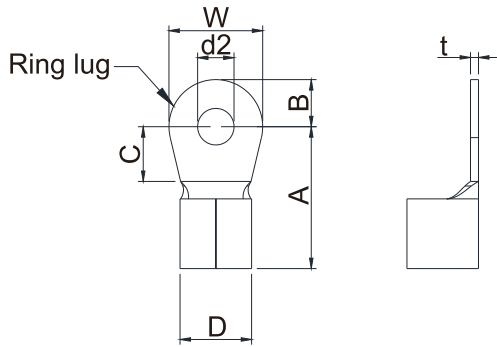
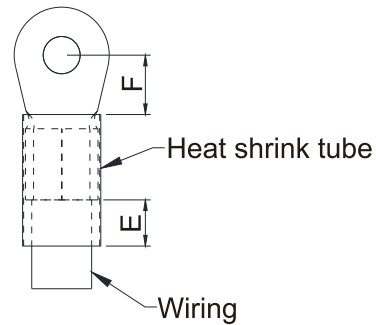

Figure 5-3
Figure 5-4
- Use the specified ring lug for main circuit terminal wiring. See Figure 5-3 and Figure 5-4 for ring lug specifications. For other types of wiring, use the wires that comply with the local regulations.
- After crimping the wire to the ring lug (must be UL and CSA approved R/C (YDPU2)), install heat shrink tubing rated at a minimum of 600 V_{AC} insulation over the live part. Refer to Figure 5-4.